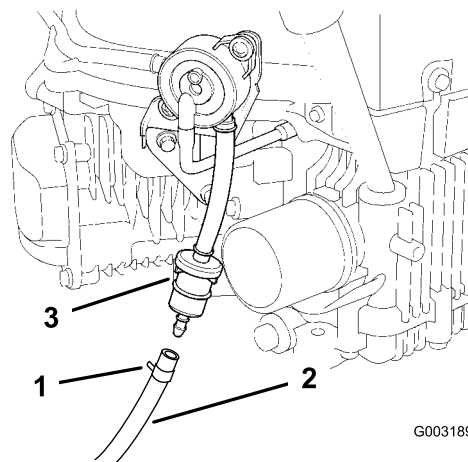

Figure 32
4. Loosen the hose clamp at the fuel filter and slide it up the fuel line away from the fuel filter (Figure 32).
5. Pull the fuel line off of the fuel filter (Figure 32).
7. Install the fuel line onto the fuel filter. Slide the hose clamp close to the fuel filter to secure the fuel line (Figure 32).
4. Squeeze the ends of the hose clamps together and slide them away from the filter (Figure 32).
6. Install a new filter with the flow direction arrow coming from the fuel tank and pointing to the engine and move the hose clamps close to the filter (Figure 32).